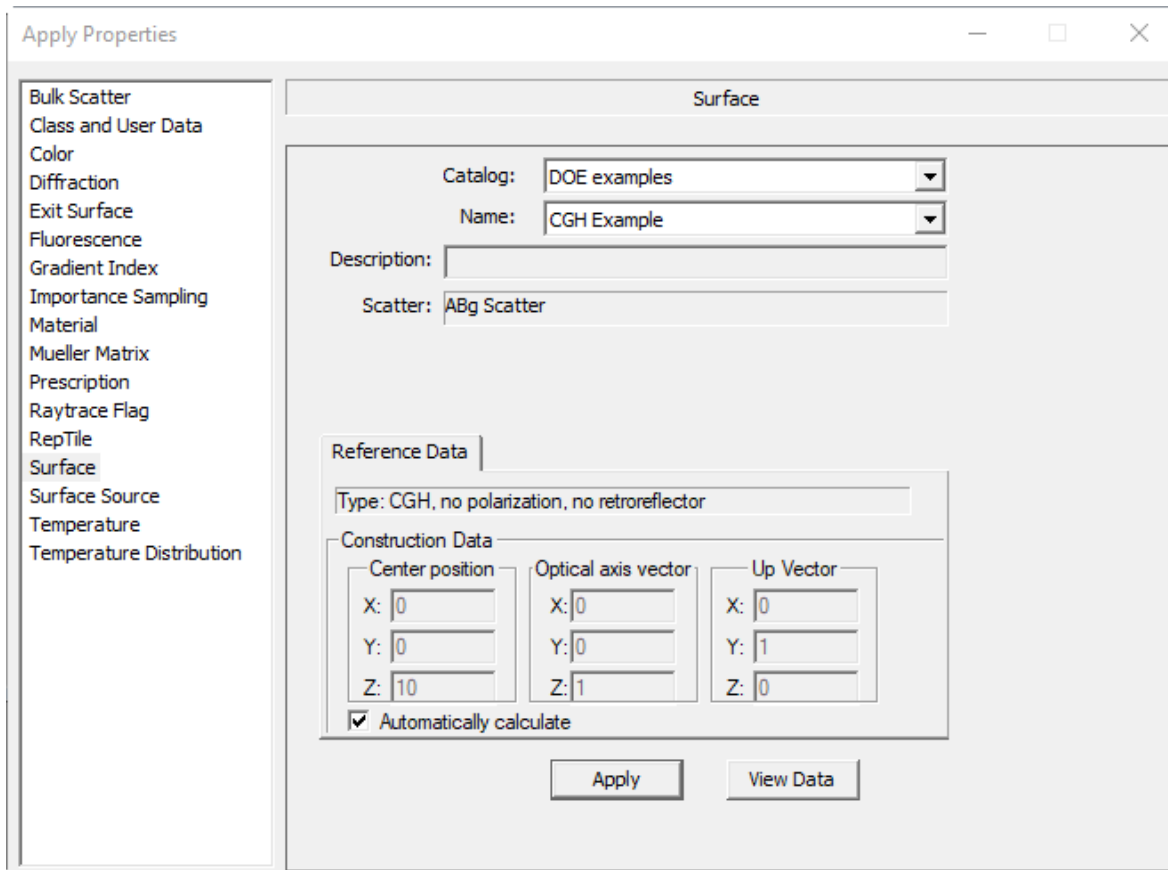

Figure 12. CGHサーフェスプロパティの例に、コンストラクションデータの自動計算をチェックした状態で適用する
9. In the **System Tree**, select *Surface 0* of the Lens Element you created earlier. Open the **Apply Properties** dialog box (**Define|Apply Properties...**), and select the **Catalog** and **Name** of the property you created. In the *Construction Data* box in the **Reference Data** tab, note that *Automatically calculate* is checked and calculated values are entered, as shown in Figure 12. Click **Apply**.